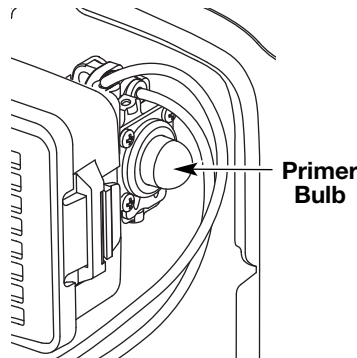

Fig. 12
3. Fully press and release the primer bulb 10 times, slowly. Some amount of fuel should be visible in the primer bulb and fuel lines (Fig. 12). If you can't see fuel in the bulb, press and release the bulb as many times as it takes before you can see fuel in it.